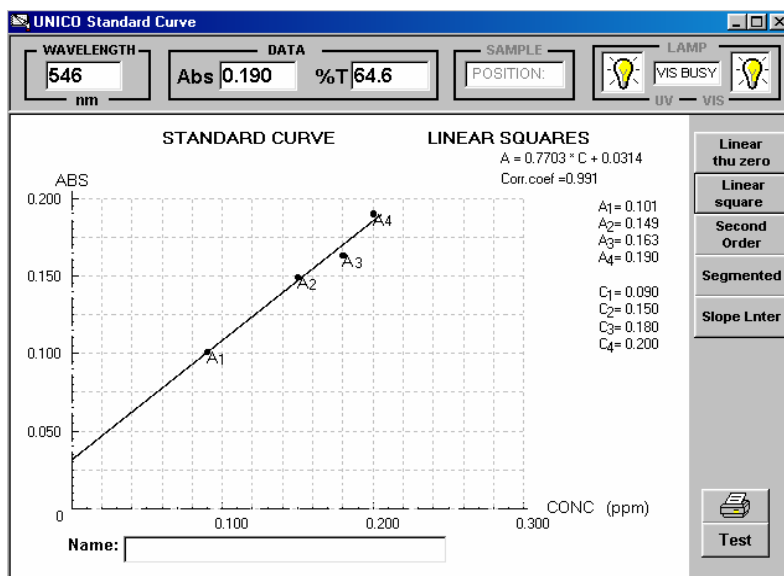
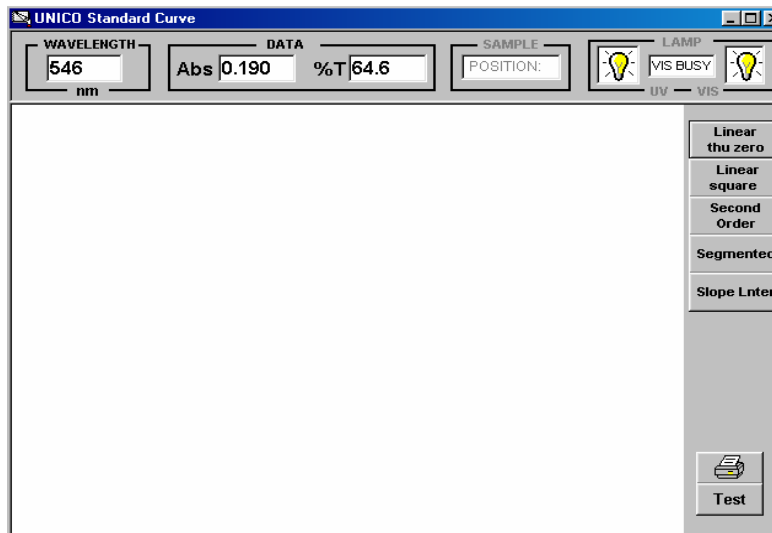

Figure-28 **Standard Curve** Graphic Display
Figure-29 The Five Function Buttons of **Standard Curve**
Step 8: Press the **Draw** button to graph the **Standard Curve** (Figure-28). You may **save** it for future use.
Step 1: Select the desired **Standard Curve** by clicking on one of the five buttons (Figure-29). Shown in Figure-28 is **Linear Squares** (Least Squares Method). Items in the equation next to the **Linear Squares** title on the graph are Abs, the slope, and y-intercept as well as **Correlation Coefficient**